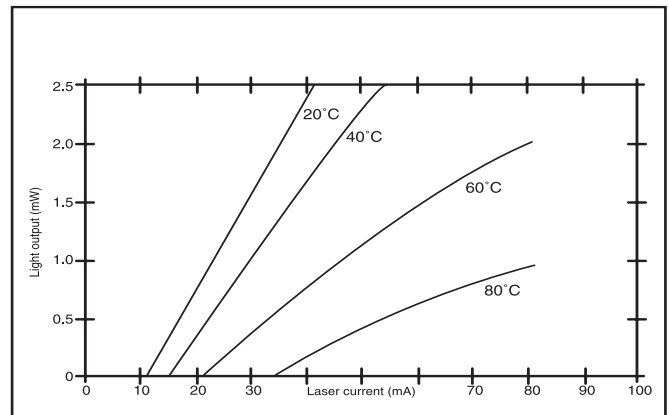

Figure 1. The continuous wave L/I curve.
*The L/I Curve.* The most common of the diode laser characteristics is the L/I curve (Figure 1). It plots the drive current applied to the laser against the output light intensity. This curve is used to determine the laser’s operating point (drive current at the rated optical power) and threshold current (current at which lasing begins).
As can be seen in Figure 1, the threshold of the laser is strongly affected by the laser’s temperature. Typically, laser threshold will increase exponentially with temperature as  $I_{th} \propto \exp(T/T_0)$ , where  $T$  is the laser temperature in degrees Kelvin and  $T_0$  is the “characteristic temperature” of the laser (typically 60 to 150 K).